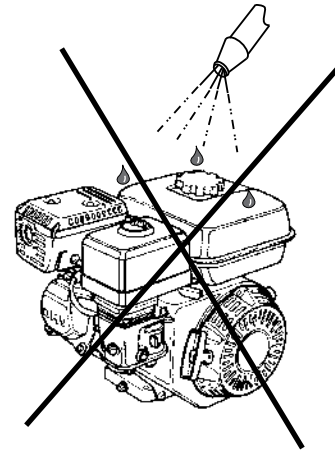

Figure 33. No Spraying of Water
6. **NEVER** pour or spray water over the engine or electric motor (Figure 33).